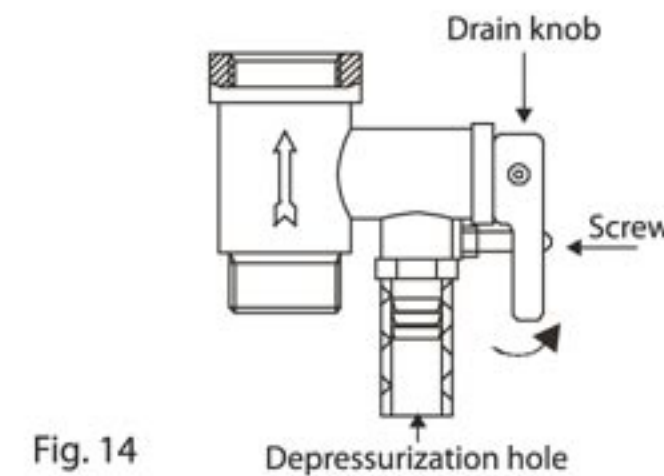

Fig. 14
6. To drain water from the internal tank properly, you need to use the drain hole (only for FE1/FE6 line) (it is necessary to unscrew a plug, covering the drain hole), water can also be drained through a composite relief valve (Fig. 14) (unscrew the composite relief valve drain knob screw and set the drain knob to the upper position, at that hot water tap must be open, and cold water supply valve must be closed).